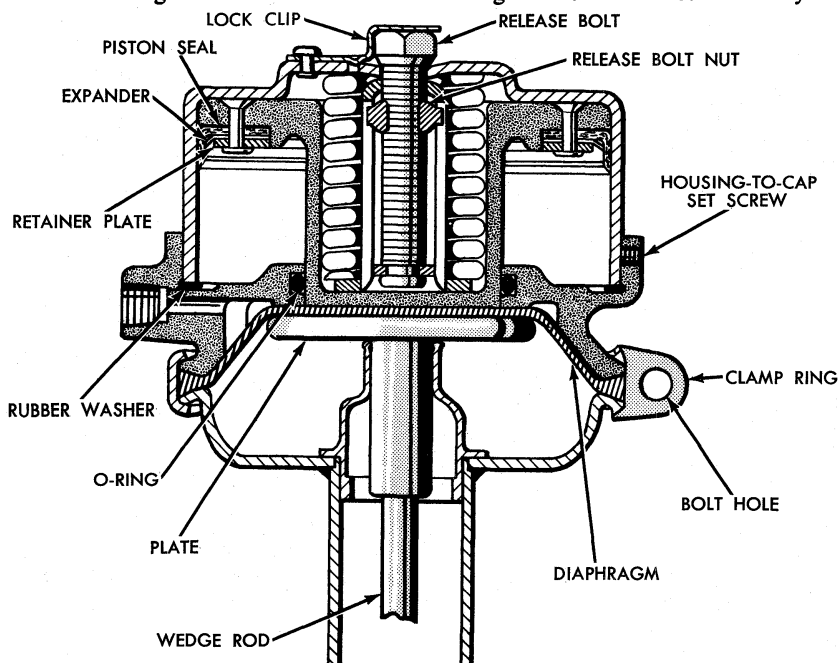

FIG. 8—Spring Manually Compressed for Removal and Repair of Fail-Safe Unit
2. Loosen the lock clip retaining screw and disengage the lock clip from the release bolt. Compress the actuating spring by turning the release bolt (Fig. 8) clockwise until
1. If the diaphragm is worn or damaged, replace it. Check the wedge assembly to be sure that the parts have not been disengaged during disassembly. Be sure that the wedge rod fits into the socket of the diaphragm plate and push rod assembly (Fig. 8).